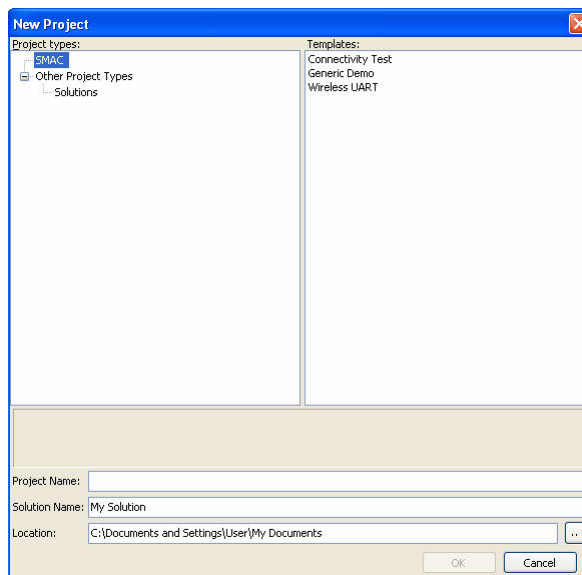

Figure 1-4. Creating a new project
4. Create a new project by selecting File->New Project in BeeKit. Then select the project template to use from those available as shown in Figure 1-4.